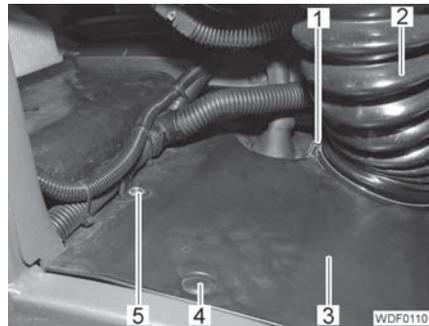

Fig. 366 Floor mat attachment (rear)
- Removing the fixing (Fig. 366,1) of the bellows (Fig. 366,2).
- Unscrew the screw (Fig. 366,5).
- Pull out the 21 expansion rivets (Fig. 366,4).
- Remove the rear (Fig. 366,3) and front floor mat.
- Insert the rear floor mat (Fig. 366,3) into the cab and push the hydraulic lines of the control hydraulic through the floor mat.
- Push in the 21 expansion rivets (Fig. 366,4).
- Place the clamp in position, screw in and tighten the screw (Fig. 366,5).
- Insert the hydraulic lines of the control hydraulic into the bellows (Fig. 366,2).
- Replace the fixing (Fig. 366,1) of the bellows.